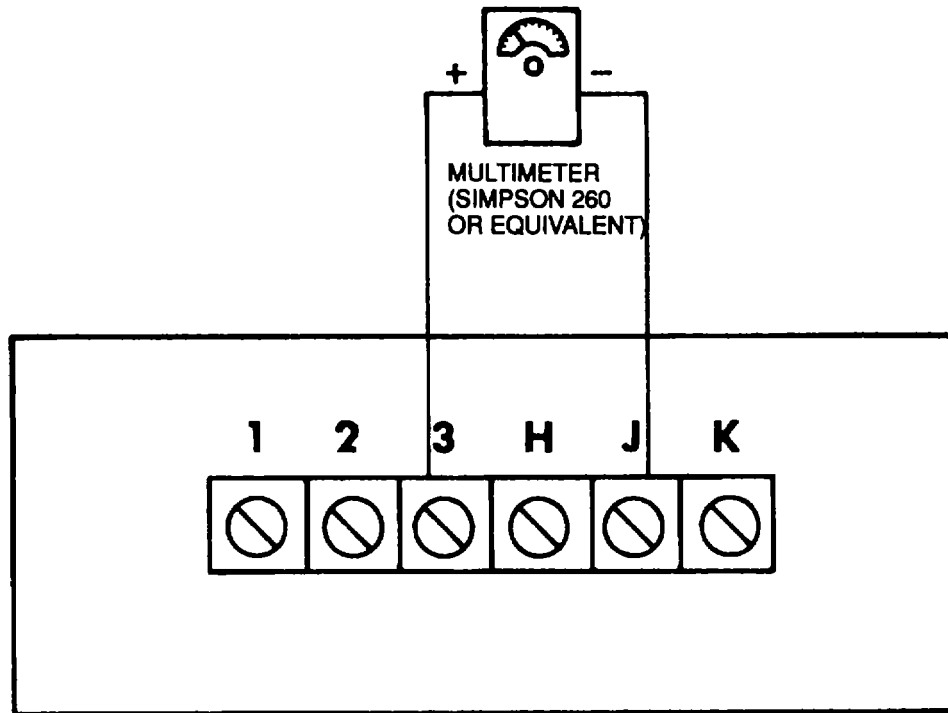

Figure 6-32. Test Setup, 50/60 Hz Module
- b. 50/60 Hz Module. See Figure 6-32.
- (1) Start the engine and operate at 1800 rpm and no load.
- (2) Using a multimeter set to 0 to 2.5 V dc scale, measure voltage from terminal J to terminal 3.
- (3) Multimeter should indicate a slight positive (+) voltage from terminal J to terminal 3.
- (4) Set FREQUENCY SEL. SW. S118 to 50 Hz.
- (5) Multimeter should indicate zero volts.
- (6) Replace a 50/60 Hz module which fails this test.